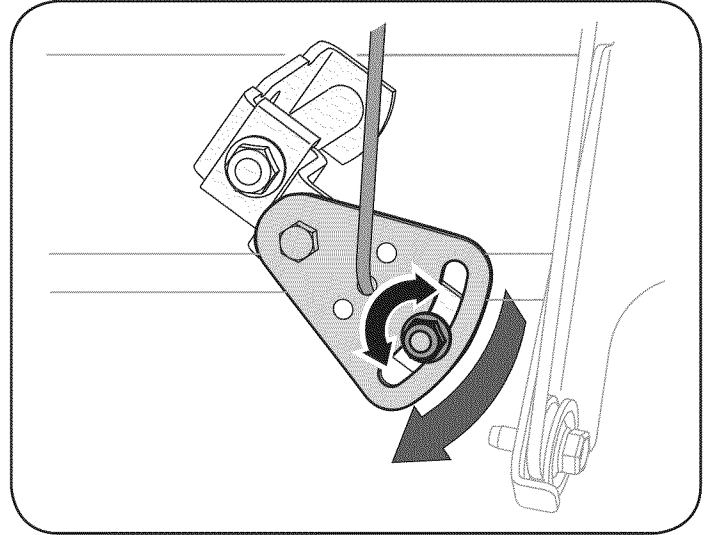

Figure 26
2. Loosen the hex nut on the shift cable index bracket. See Figure 26.